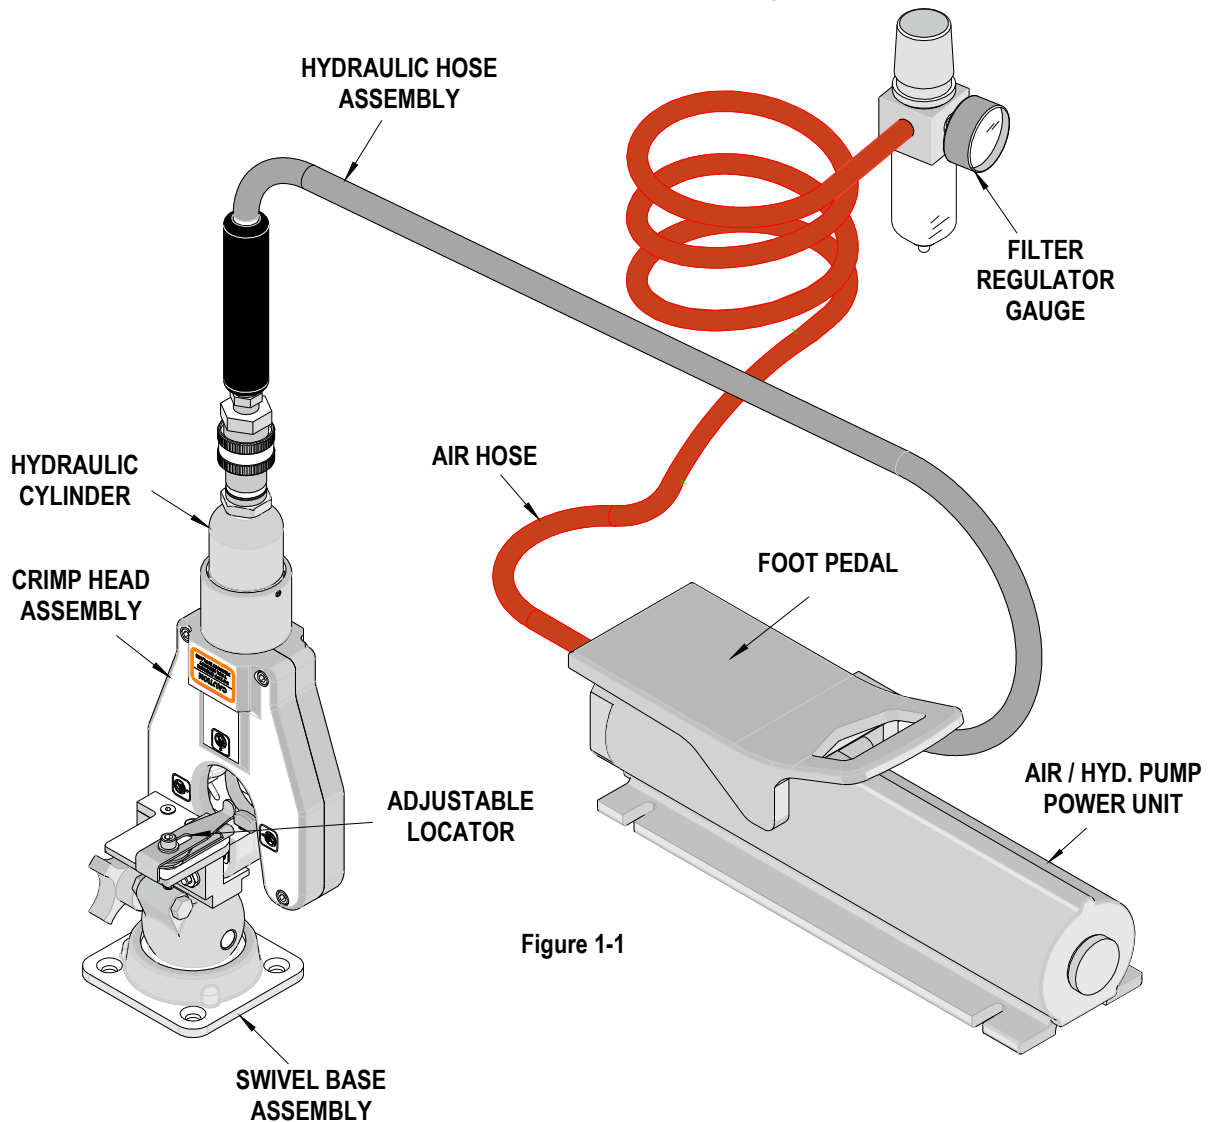

Figure 1-1
1.1. Description (See Figure 1-1)